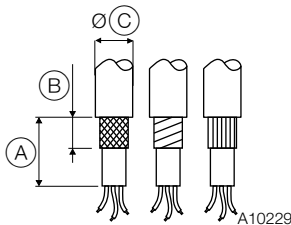

Fig. 1: Stripping of connection cable
2. Strip the cable in accordance with Fig. 1.